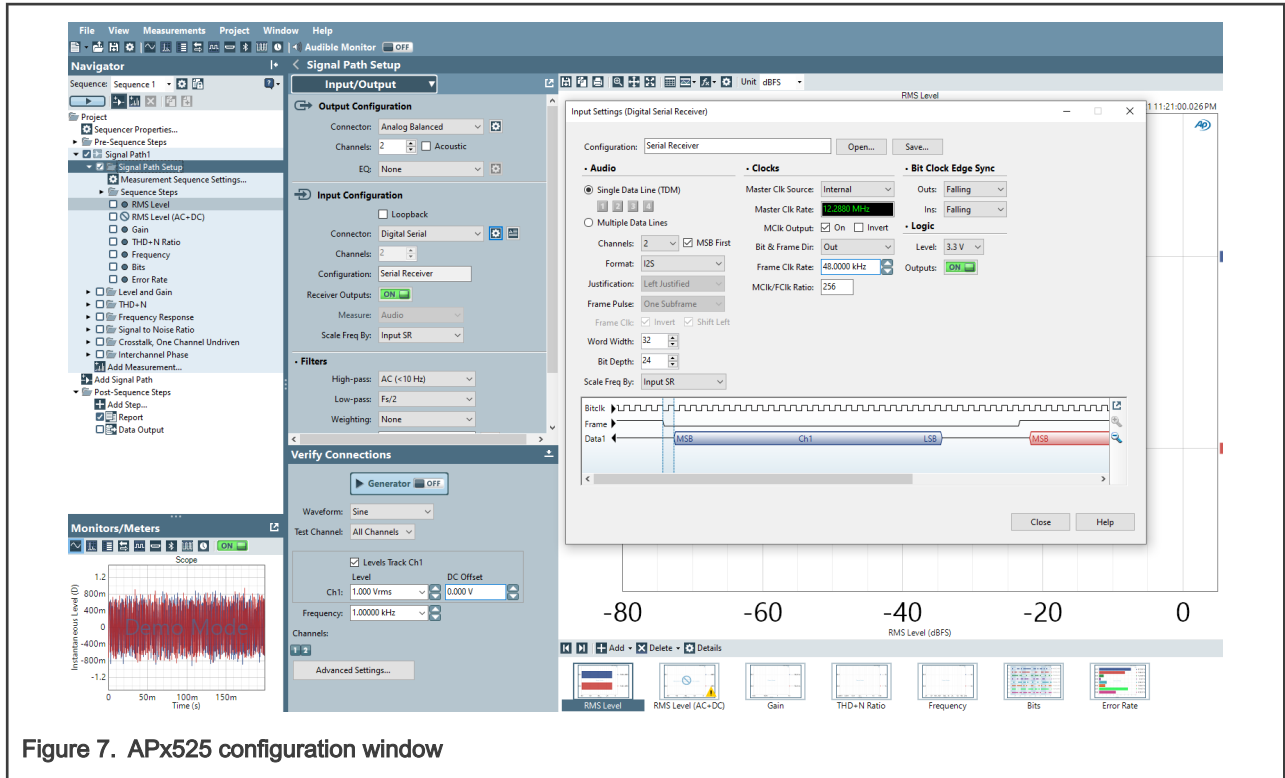

Figure 7. APx525 configuration window
4. Figure 7 shows the input and output configuration of APx525.